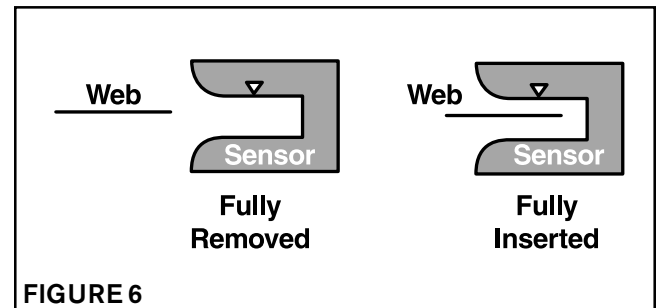

FIGURE 6
4. Cover the sensor window completely with an opaque material (See Figure 6).